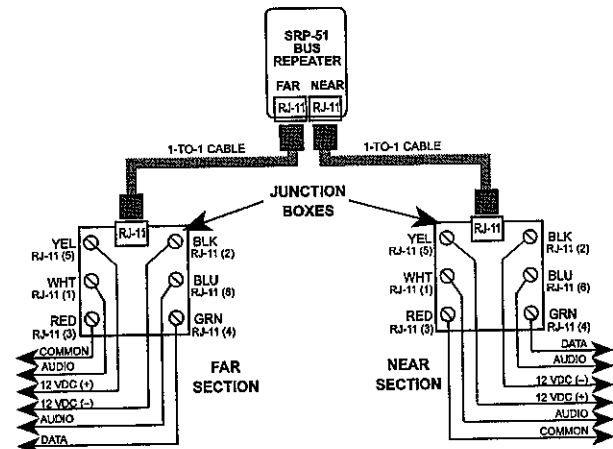

Figure 5-6. Bus Connection via a Junction Box
- A. Identify the 4 wires of each bus and connect them to the numbered terminals within the junction box, maintaining the order required for correct patching (see Figure 5-6).